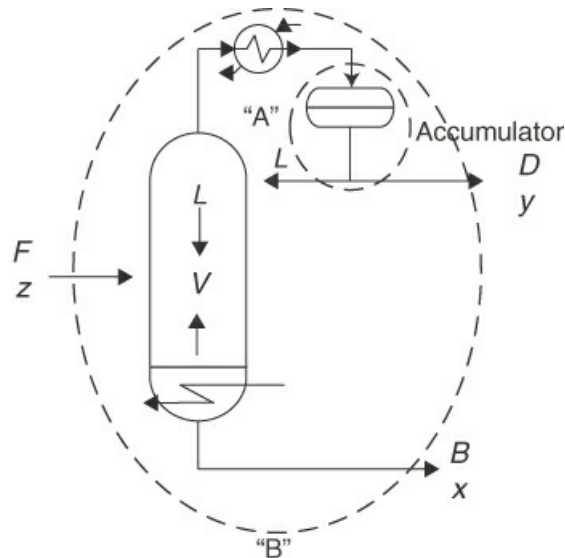
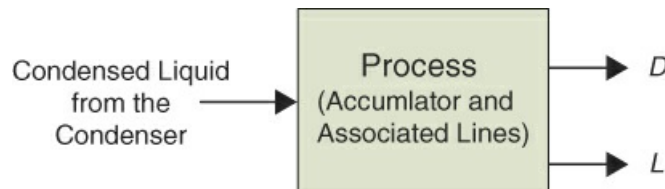
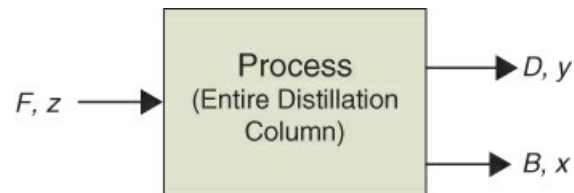

Figure 3.4 Boundaries applied to the schematic of a distillation column
Figure 3.5 The system for boundary A
Figure 3.6 The system for boundary B
We can draw a **system boundary** around any part or the whole of this schematic. For example, by drawing a boundary around the accumulator and the exit lines (boundary A in Figure 3.4), the result is shown in Figure 3.5, and it indicates that what enters the identified system equals what leaves that system. That is, the condensed liquid that enters the accumulator is equal to the sum of the distillate rate (D) and the reflux (L) that leaves the system.
On the other hand, if we draw a boundary around the entire column (boundary B) and consider only the material balance aspects of the system, the result is represented by the schematic shown in Figure 3.6. Note that neither the steam nor the refrigerant comes into contact
with the components in the feed stream that are being separated by the column. That is, steam condenses in the reboiler, transferring heat to the material in the bottom of the column, and the refrigerant absorbs heat from the overhead vapors, but neither mixes with the material inside the column. From Figure 3.6, all of the details of the internal operation of the distillation column (i.e., the generation of vapor by the reboiler, condensation of the overhead vapor by the condenser, and the vapor/liquid contacting on each tray in the column) are neglected, and only the overall material balance behavior of the process is considered. Many times, this overall material balance behavior (i.e., a macroscopic model) is all that is needed to represent a process. Therefore, you can analyze the entire process or any portion of the process by simply applying the proper system boundary. This chapter focuses on applying material balances using schematics similar to Figures 3.5 and 3.6; that is, emphasis is placed on the overall behavior of the process and not the internal details.
Macroscopic balances: Macroscopic balances are concerned with only the overall behavior of the process under consideration and not the details of the internal operation of the system. For example, a macroscopic balance on a distillation column is concerned about the overall separation of the light and heavy components (i.e., the compositions of the streams leaving the column) and not the distribution of component concentrations inside the column (e.g., system B in Figure 3.4 and Figure 3.6).